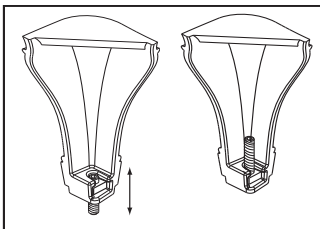
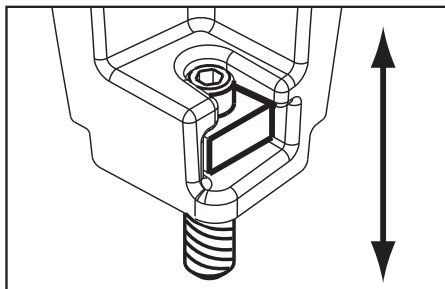

Figure 16.2
Figure 16.3 - Bolt fully extended
2. Slide assembled nuts and bolts into slots on legs with the nuts on the bottom. **Figure 16.2.** Use a 5/32 Allen wrench to adjust legs up and down to desired level. **Figure 16.3.**